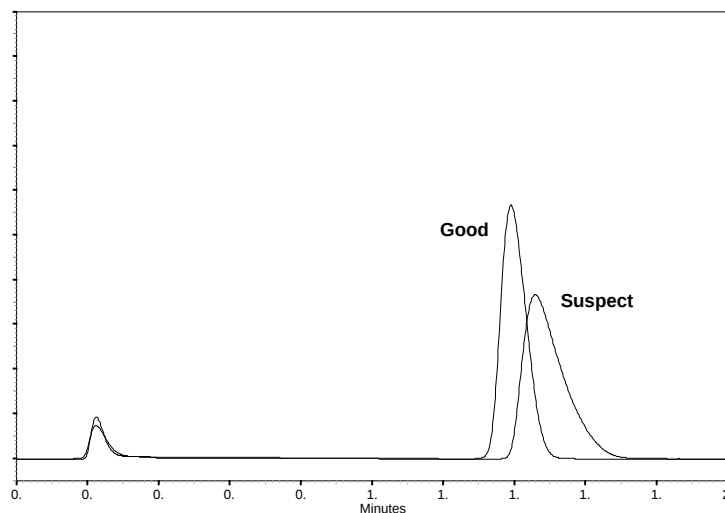

Figure 5-7: The Effect of Column Aging on Analytical Performance
- Shifts in retention time or changes in chromatographic peak shape (e.g., Figure 5-7) are unlikely to be due to a problem with the Corona detector but are more likely to be due to column aging, changes in temperature, and differences in mobile phase composition.